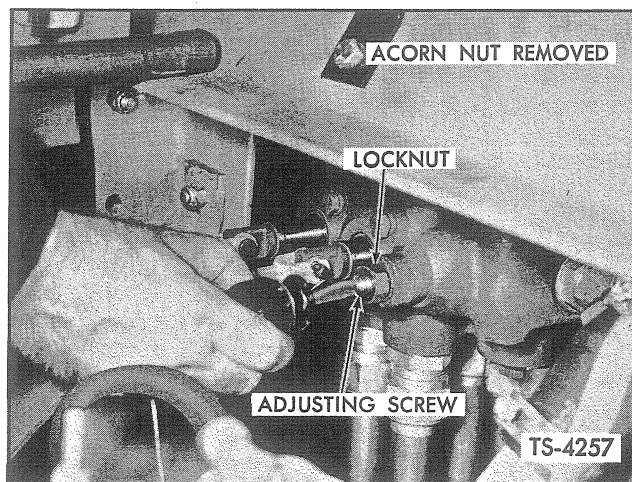

Fig. 28. Adjust Pressure — Boom and Bucket Control Valve
4. Remove acorn nut on end of adjusting screw, and loosen locknut. Insert screwdriver and turn screw clockwise to increase pressure, counterclockwise to decrease pressure. See Figure 28. Turn screw in increments of approximately $\frac{1}{4}$ revolution or less, set locknut, and retake reading. Repeat until gauge reads 1825 psi.